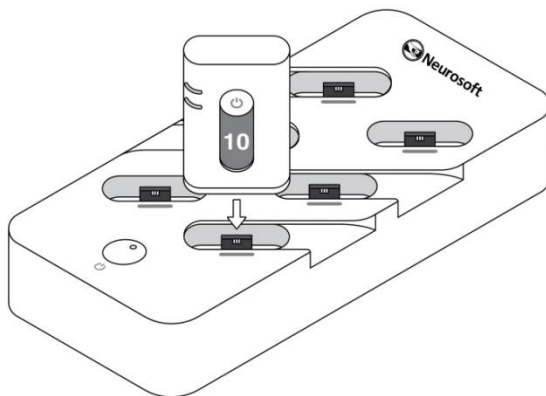

Fig. 13. Sensor battery charging
3. Place the sensor into the charging station (Fig. 13).
The sensor is placed into the charging station incorrectly.	Check if the sensor is placed into the charging station correctly (see Fig. 13).